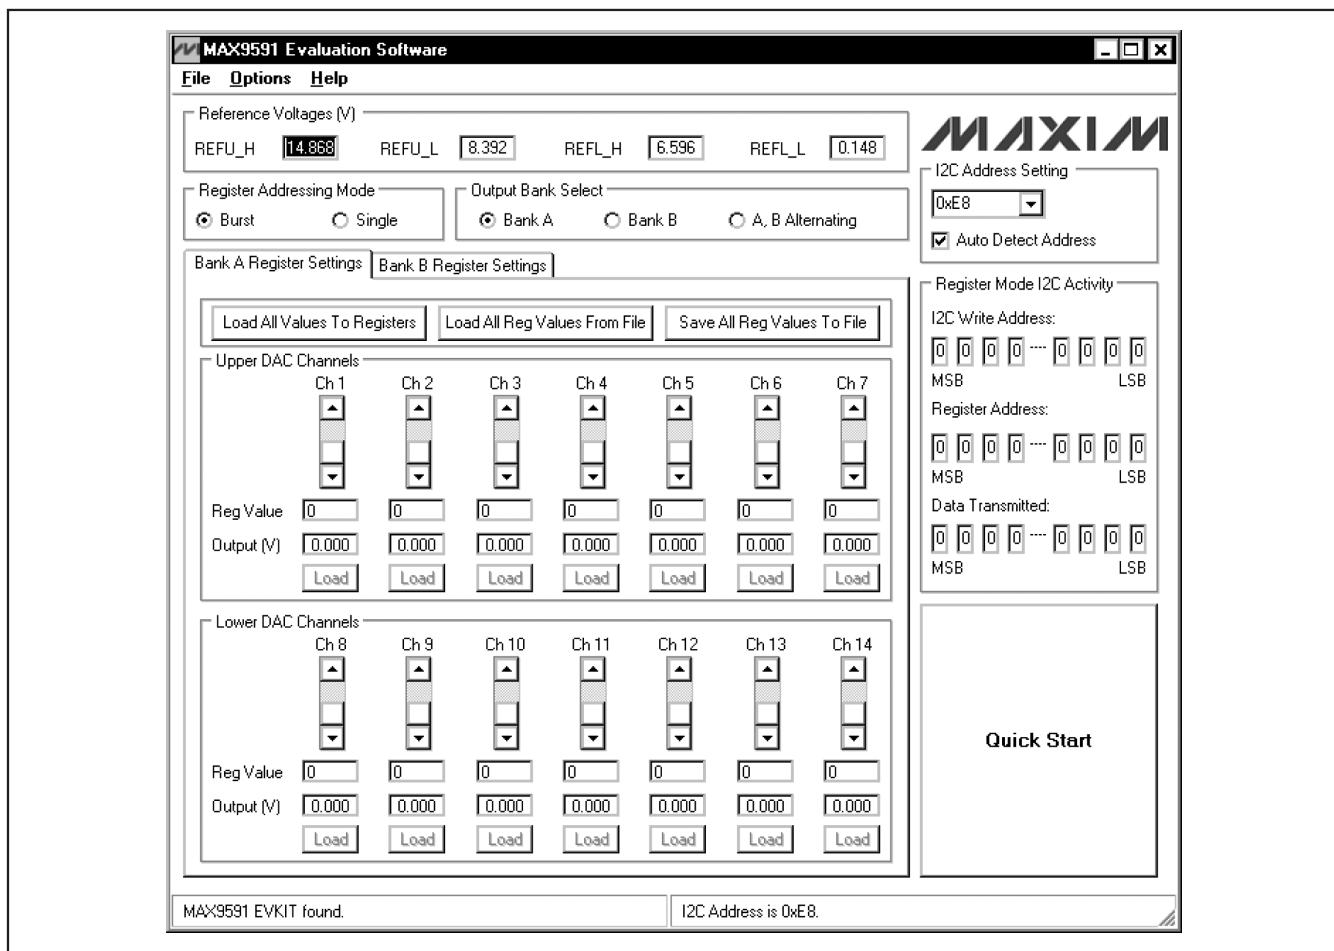

Figure 1. MAX9591 Evaluation Software Main Window
- 13) Start the MAX9591 EV kit software by opening its icon in the **Start | Programs** menu. The EV kit software main window appears, as shown in Figure 1.
- 14) Use the DVM voltage probe to measure the reference input voltages on the REFL_H, REFL_L, REFL_H and REFL_L PCB pads, and type those values into the corresponding edit boxes of the **Reference Voltages (V)** group box.
- 16) Use the DVM voltage probe to verify that the DAC output voltages are close to the voltages shown in the **Output (V)** edit boxes for the respective channel.
The MAX9591 evaluation kit (EV kit) software main window is shown in Figure 1. The GUI software automatically detects the MAX9591 device address and displays it in the **I2C Address Setting** drop-down list and in the software status bar. The DAC output voltages in the **Upper DAC Channels/Lower DAC Channels** group boxes are calculated using the upper and lower reference input voltages on PCB pads REFU_H, REFU_L, REFL_H, and REFL_L. The reference input voltages **MUST** be measured at the appropriate PCB pads and the values entered in the respective **Reference Voltages (V)** edit boxes for the DAC output calculations to be correct.